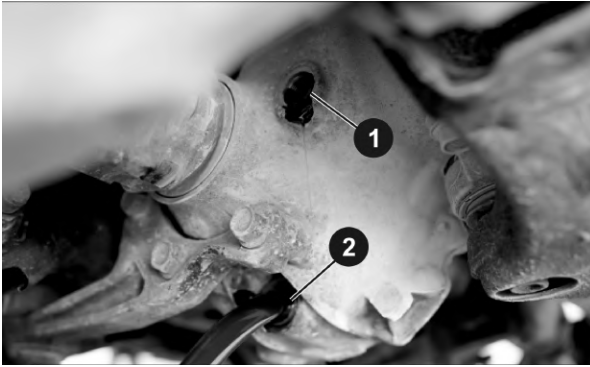

Fig. 1
1.3 Position a suitable drain pan under the differential housing. Remove the fill plug (1) first, then remove the drain plug (2) and allow the differential oil to drain completely. (**Fig. 1**)